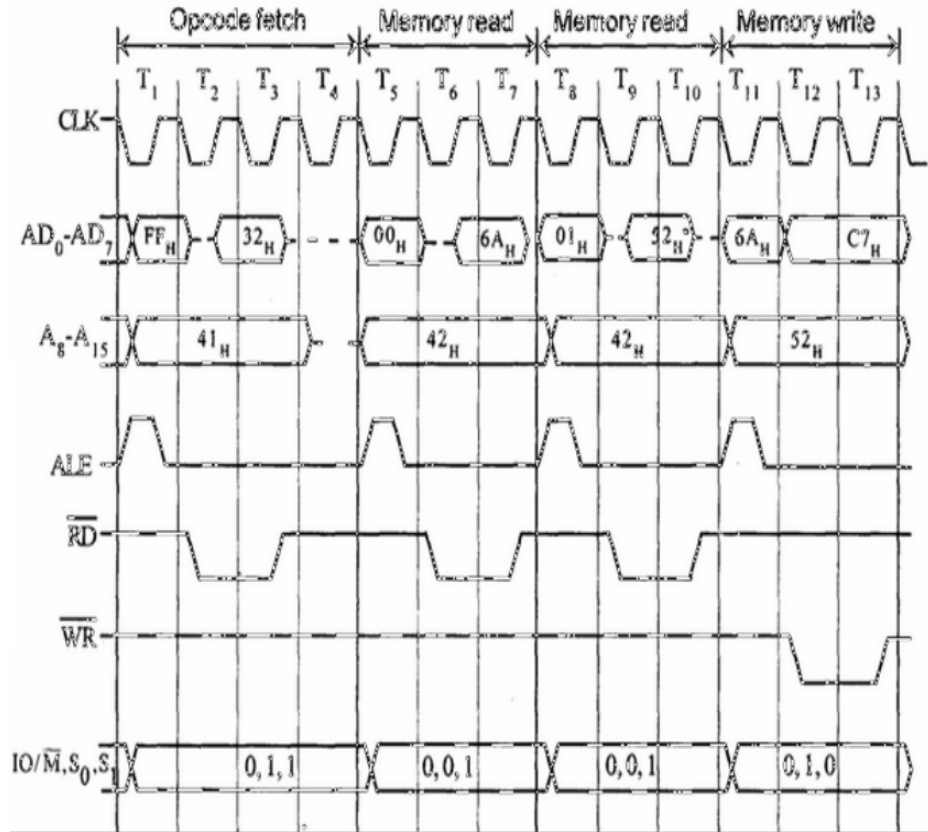

Figure 57: Timing diagram of STA 526AH
This instruction stores the contents of the accumulator specified address, which is 526A in this case. The opcode of the STA instruction is said to be 32H. It is fetched from the memory 41FFH(Figure 57). - OF machine cycle. Then the lower order memory address is read(6A). - Memory Read Machine Cycle. Read the higher order memory address (52).- Memory Read Machine Cycle. The combination of both the addresses are considered and the content from accumulator is written in 526A. - Memory Write Machine Cycle. Assume the memory address for the instruction and let the content of accumulator is C7H. So, C7H from accumulator is now stored in 526A.